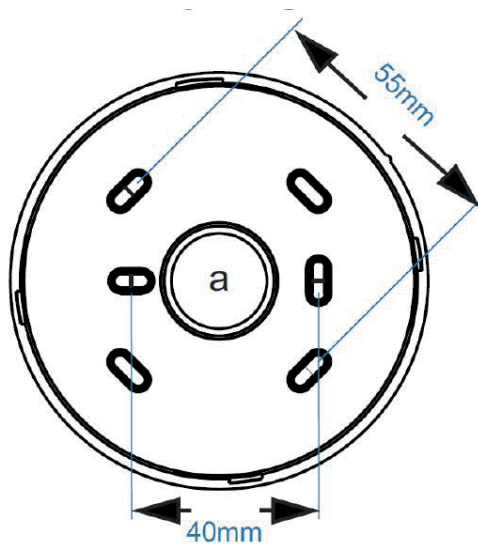

FIGURE 1
- > Perforate the cable hole (point a) of the lower casing (Figure 1) and insert the sounder cables here.